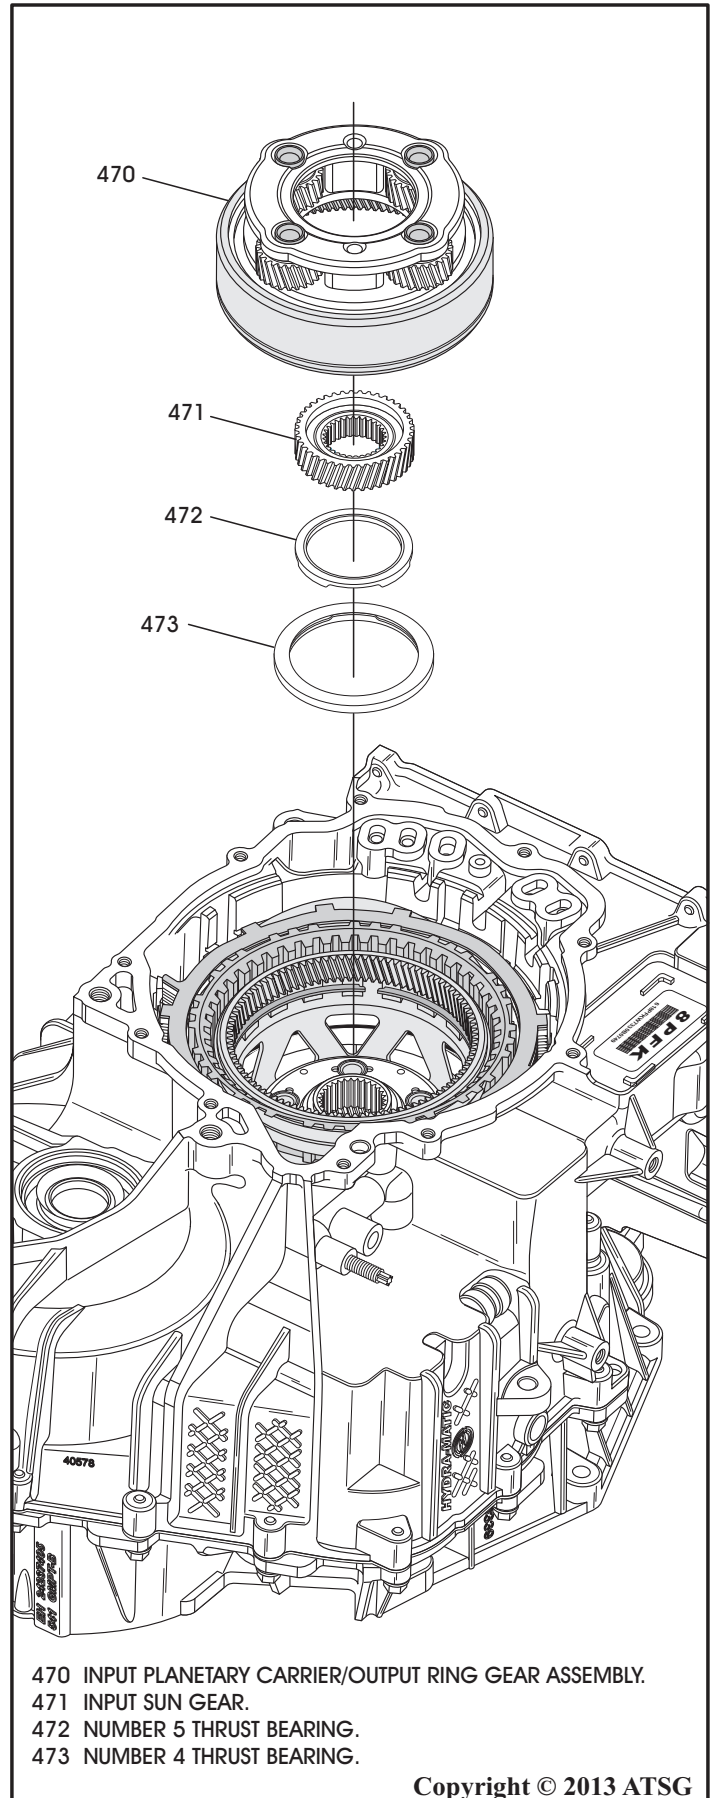

Figure 60
34. Remove the input planetary carrier assembly and the input sun gear, as shown in Figure 60.
35. Remove the number 5 thrust bearing, as shown in Figure 60.
36. Remove the number 4 thrust bearing, as shown in Figure 60.